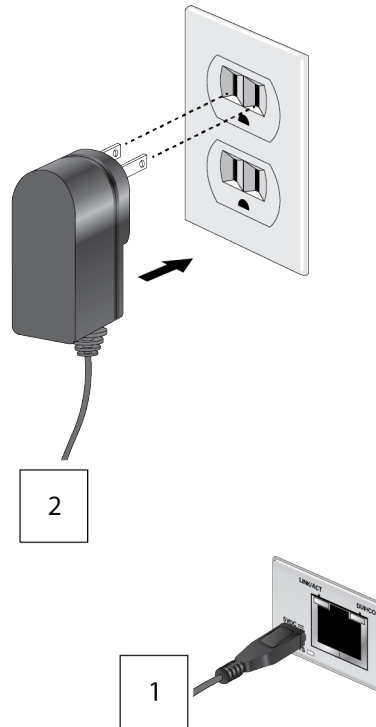

Figure 34. Connecting Power via Power Adapter
- Attach the other end of the USB cable to the USB port on the power adapter, then plug the power adapter to a power outlet, as shown in Figure 34. See “Power Specifications” on page 58 for power requirements.